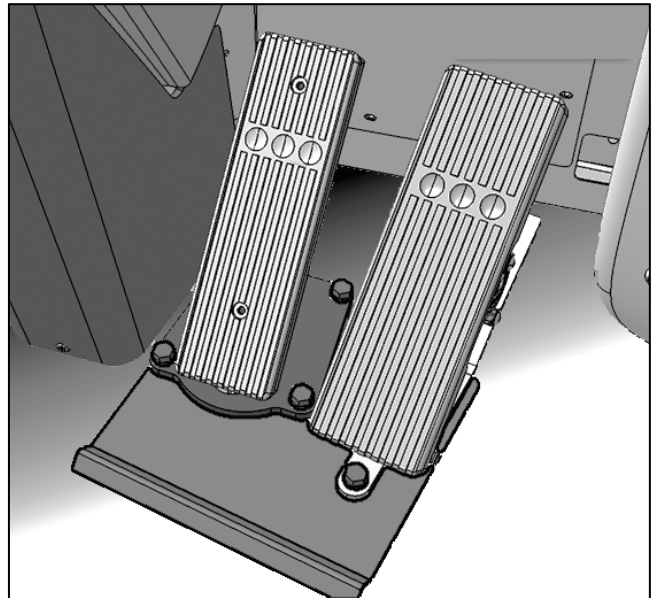

Figure 3
11. Enlarge floor opening and protect exposed wood with #684772 (Fig.3).